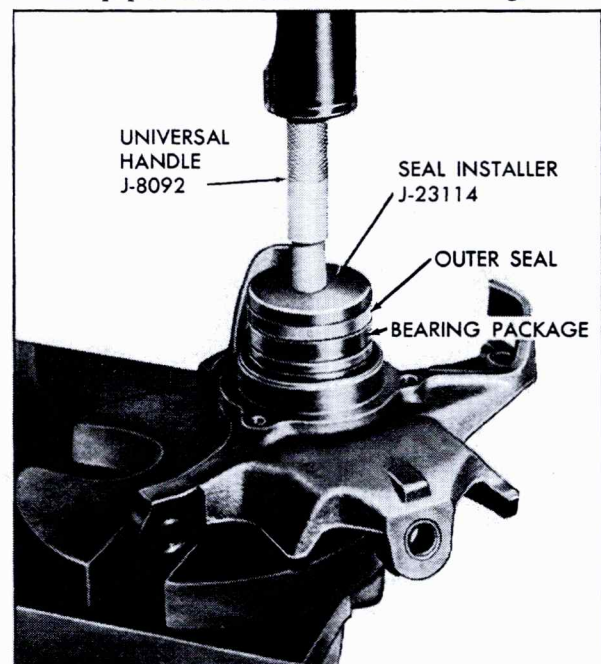

Fig. 3-40 Installing Bearing Package
5. Press bearing kit and outer seal into steering knuckle, Fig. 3-40.